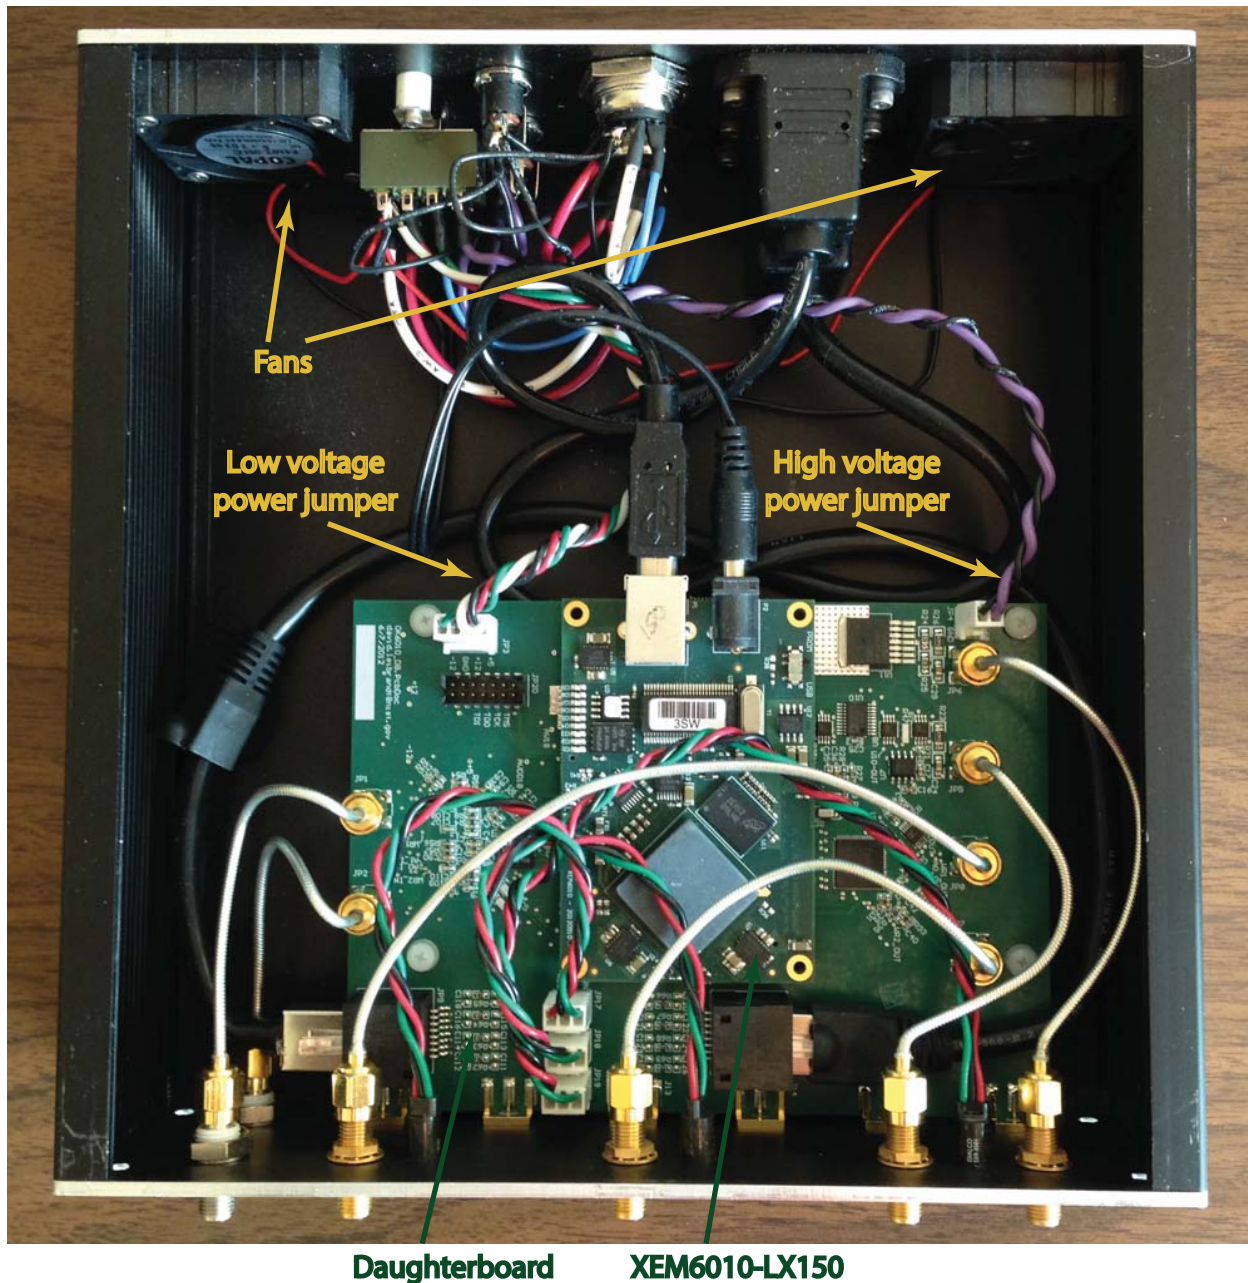

FIG. 1. Picture of the inside of an assembled NIST digital servo box.
1. Install the connectors, LEDs, fans, and switch onto enclosure front and back panels and wire them up, following Fig. 1